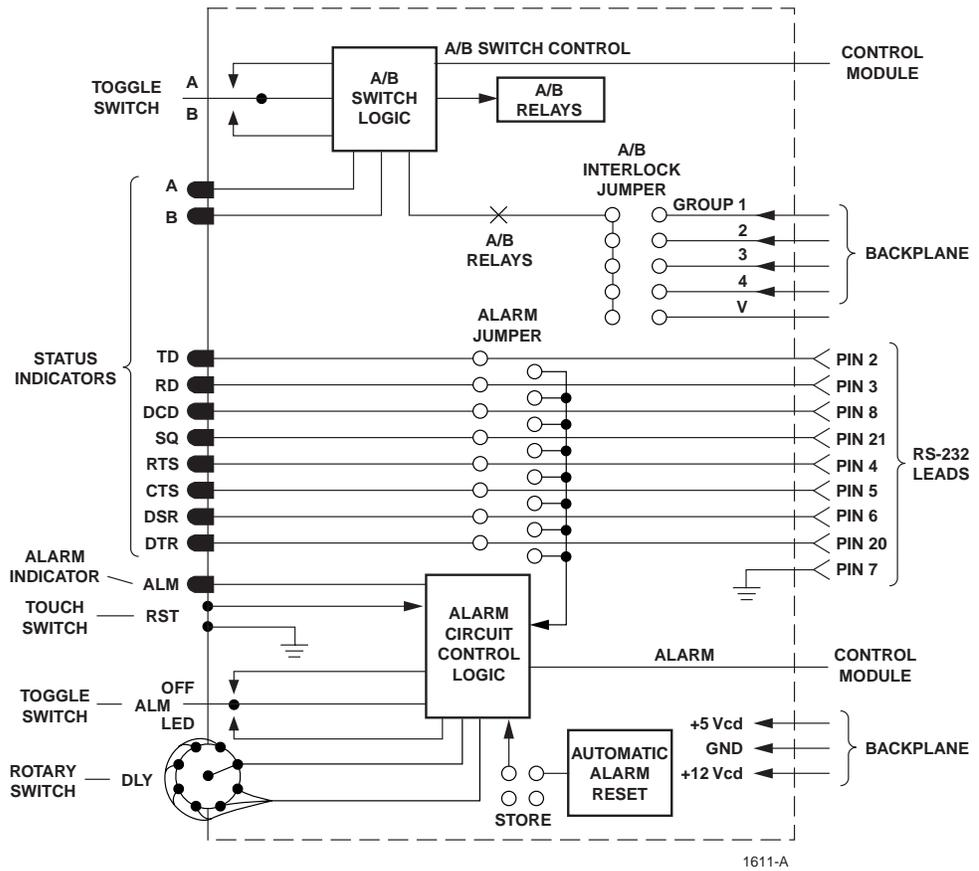

Figure 2-6. LED/Alarm Patch Module with A/B Switching Detailed Circuit Diagram
Figure 2-6 shows a more detailed diagram of the module. In addition to switching between DTE-A or DTE-B, the relays also switch in the interlock jumper. Interlocking is used to protect the user from accidentally switching a common backup piece of equipment onto two or more different data lines. This is accomplished by allowing only the first module in that group to switch. The remaining modules remain in the “normal state” or the “A” position. Modules in the “B” position once switched to “A” will remain in the “A” position.
► **Note:** Except for the A/B switching circuits, the circuit diagram shown in Figure 2-6 is applicable to PSM-12.